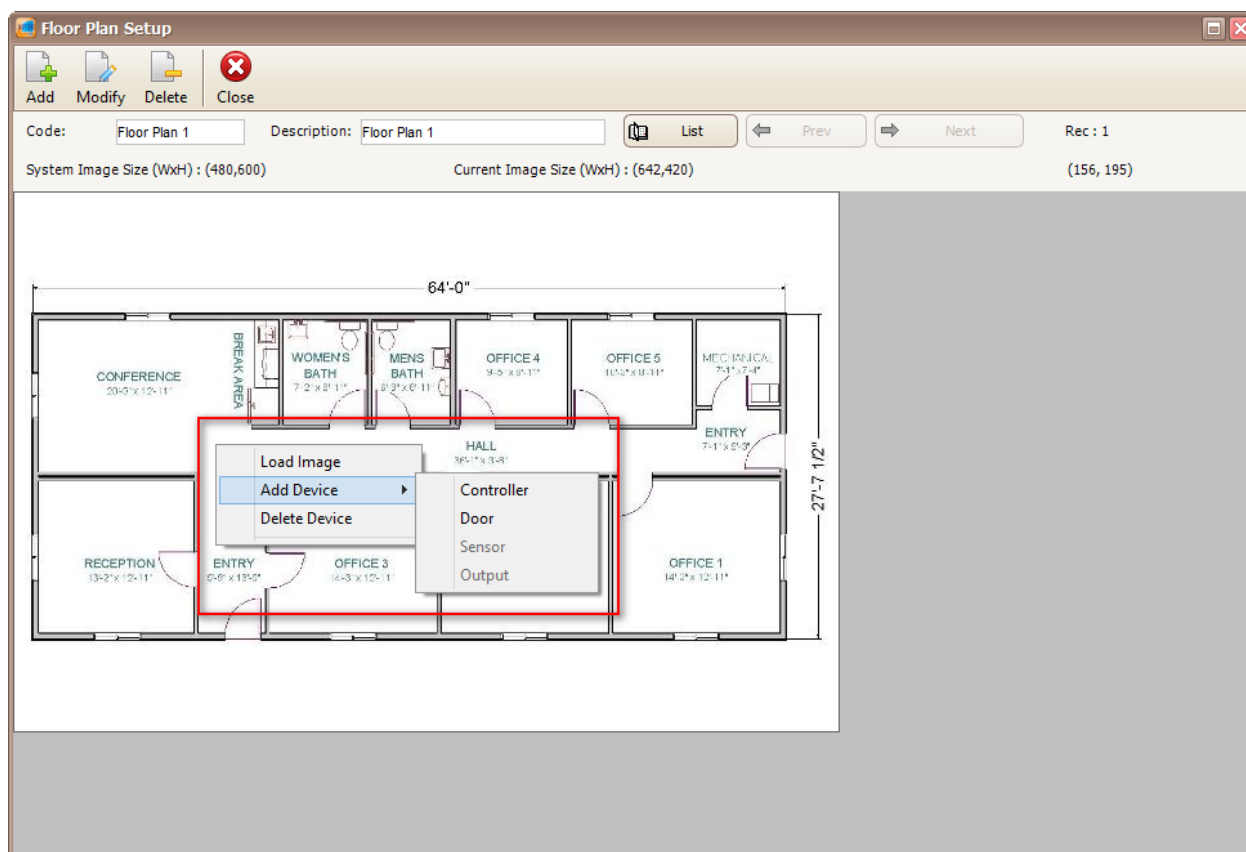

Figure 160 - Add Device
7. After the floor plan image has been loaded, right click on the floor plan image to add device such as controller or door (Refer **Figure 160**).